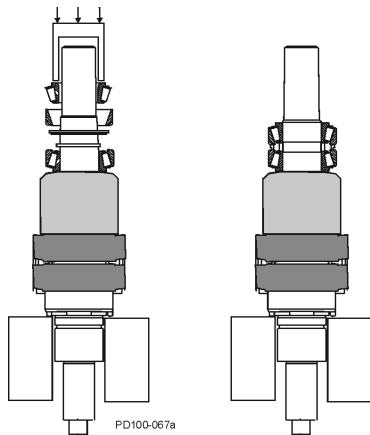

Figure 50 - Rear Tapered Roller Bearing Assembly
1. Unwrap the rear bearing assembly. See Figure 50.